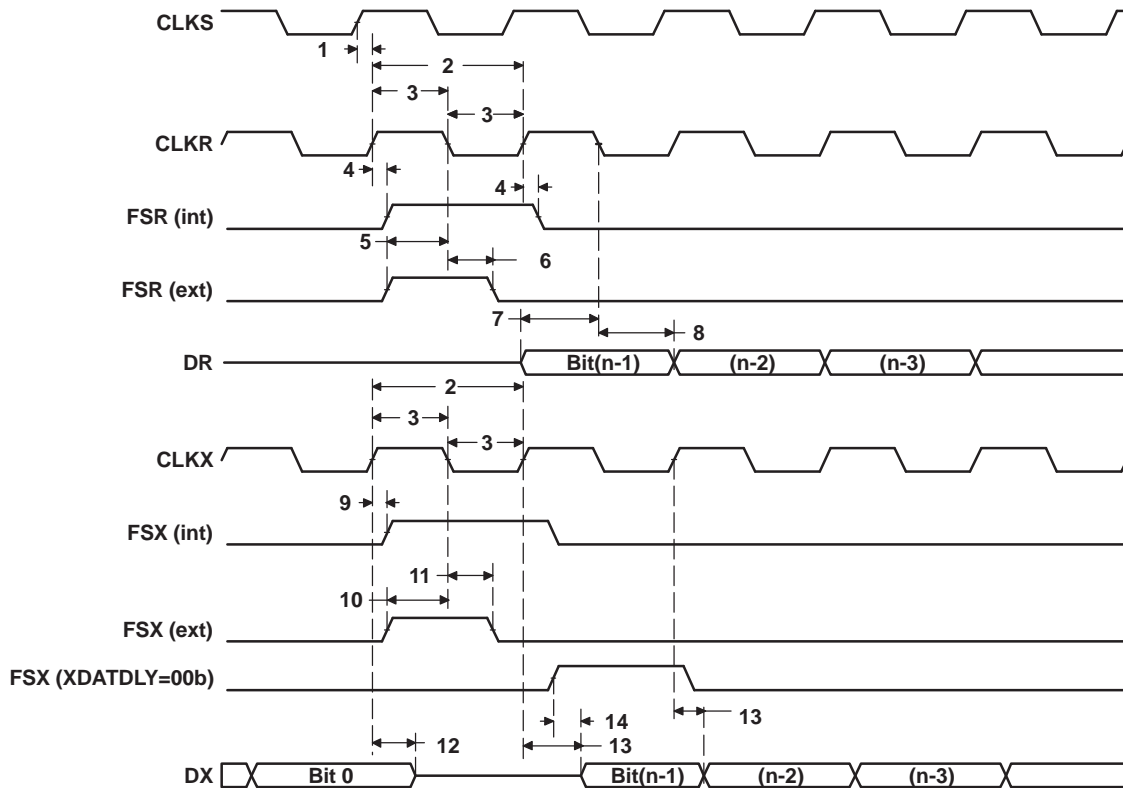

Figure 5-40. McBSP Timing
5.12.1 Timing Requirements for McBSP ^{(1) (2)} (see Figure 5-40)